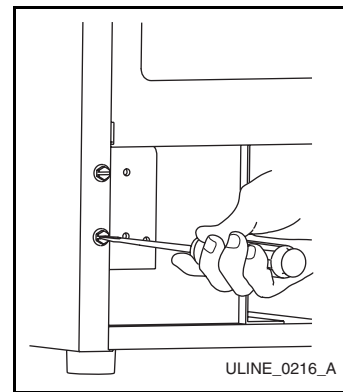

Figure 23
4. Remove screws on opposite side of cabinet (**Figure 23**). Note that there may be a nut behind one or both screws on either side.